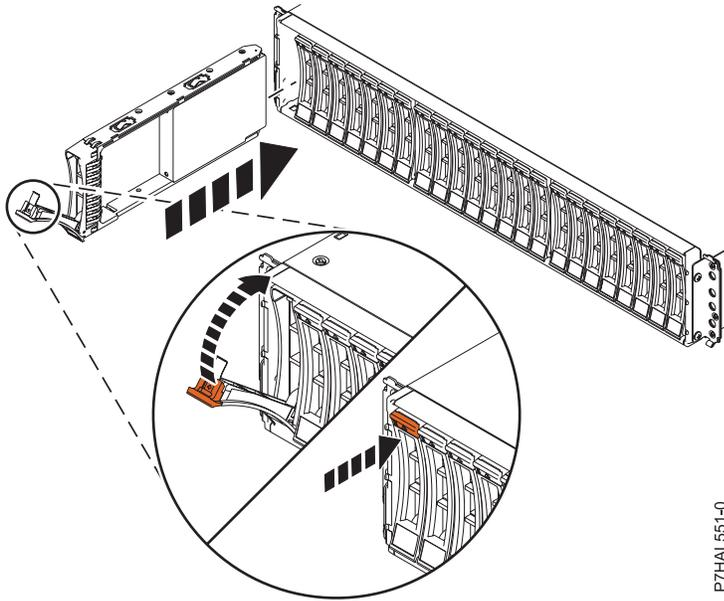

Figure 2. Installing the disk drive in the 58/87 disk drive enclosure
1. With the handle in the unlocked position, see Figure 2 on page 9, support the bottom of the drive as you align it with the guide rails in the expansion unit.